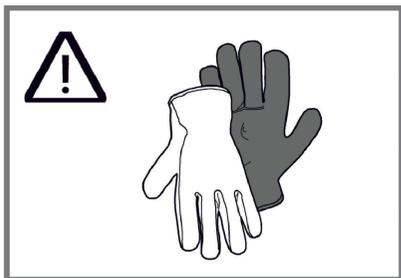

Fig. 15
- Parts inside the appliance may have sharp edges. Use protective gloves (Fig. 15).